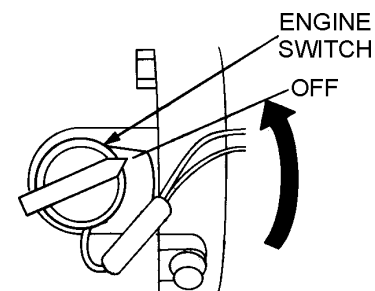

Figure 16. Engine ON/OFF Switch (OFF)
2. After the engine cools, turn the engine **ON/OFF** switch to the **OFF** position (See Figure 16).